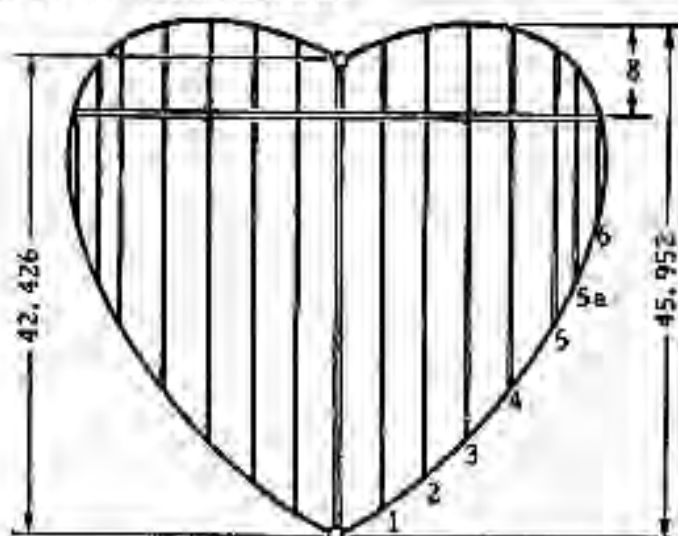
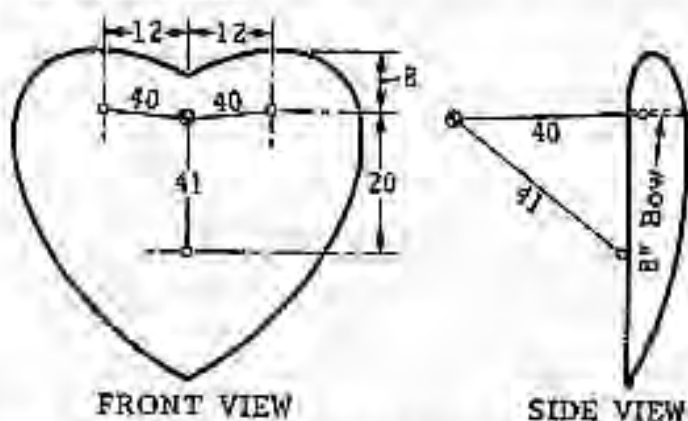

Figure 3: Arranging Battens, Keel, and Spar
Figure 4: The 3-Branch Bridle Dimensions
(Fig. 3)
On figure 3 for instance, you can see the wing adjustment hook on the patent. This hook is placed in the cylindrical tail as shown in figure 4, a close up of the rebuilt kite.
(Fig. 4)
Sellers, who seems to be particularly proud of the coupling rods (see figure 4) on his Bird Kite, wrote in his patent: In this construction the coupling bar 2 is bent between its ends to form an eye 3 and line wire 1 passes along the shank 4, through the eye 3 and is given one or more turns about the eye and then several turns around the shank, then one or more turns at 5 around the line wire, then several turns around the shank back to the eye, then one or more turns at 6 in the eye.
2. Refer to Figure 3, backside of the kite, and glue, tape, or sleeve—on 4" centers—six longitudinal battens on each side of the keel. Use 1/8" dia. birch dowels or 1/8" sq. Sitka spruce for the battens. Note that the short batten, 5a, is placed halfway between 5 & 6. Make the keel batten of 1/4" square spruce.
4. Bridle the kite to the dimensions shown in Figure 4 for a first flight trial. Vary the bridle adjustments for refining flight characteristics; use approved Eddy-kite tuning procedures—a little bit at a time (see DL #21).